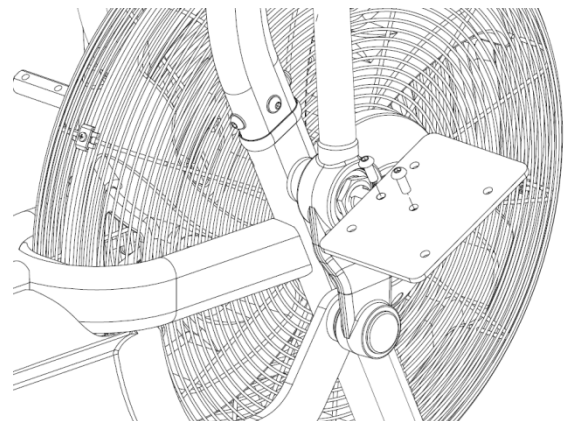

Fig. 12
11. Secure the left & right grip arms to the crank linkages by applying final torque (Fig. 12) to the joining bolt and plugging the bearing housings with the corresponding plastic caps.